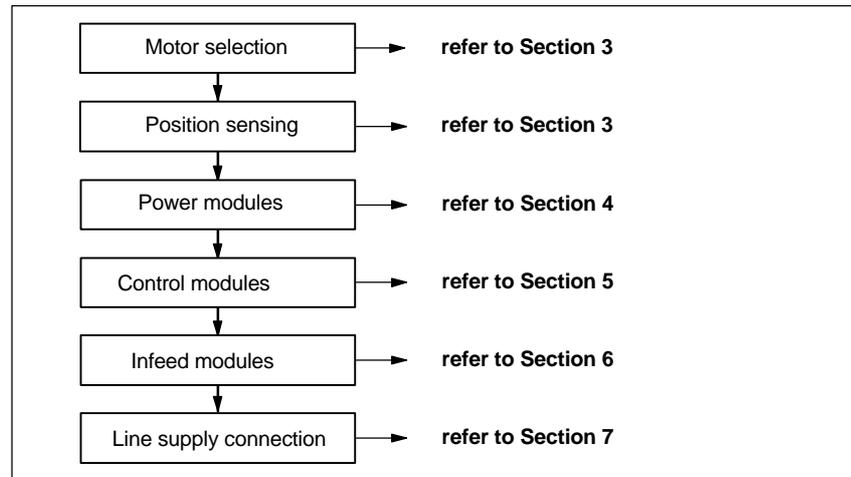

Fig. 1-4 Selecting the components
- Phase 1            Selecting the components            (refer to Fig. 1-4)